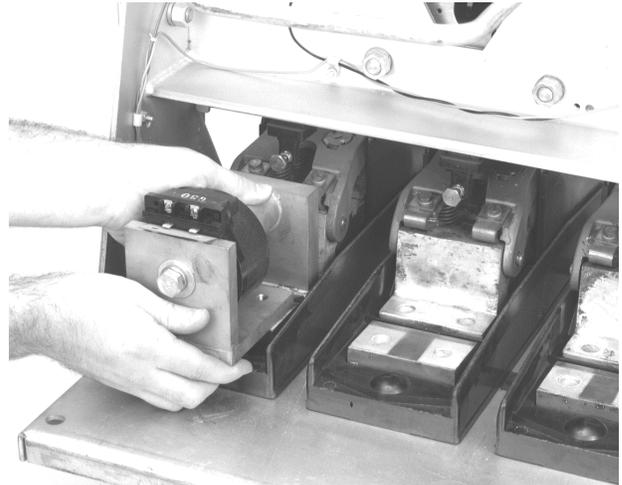

Figure 11. Placing a CT into position on a DB-50 breaker.
4. Place each CT assembly into the breaker, as shown in Figure 11, carefully aligning the tapped holes in the bus with the existing holes in the back frame.